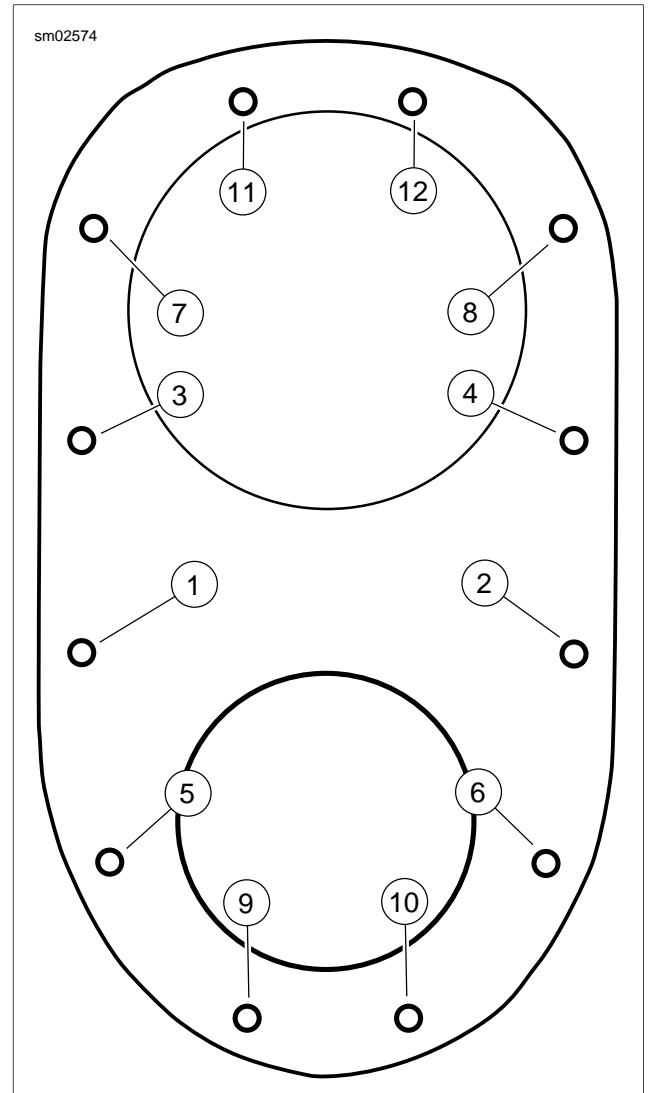

Figure 8-50. Top Plate Torque Sequence: FXD/FXDB/FXDL
6. For FXD/FXDB/FXDL models, see Figure 8-50. Tighten sealing fasteners using pattern shown to 20 in-lbs (2.26 Nm).